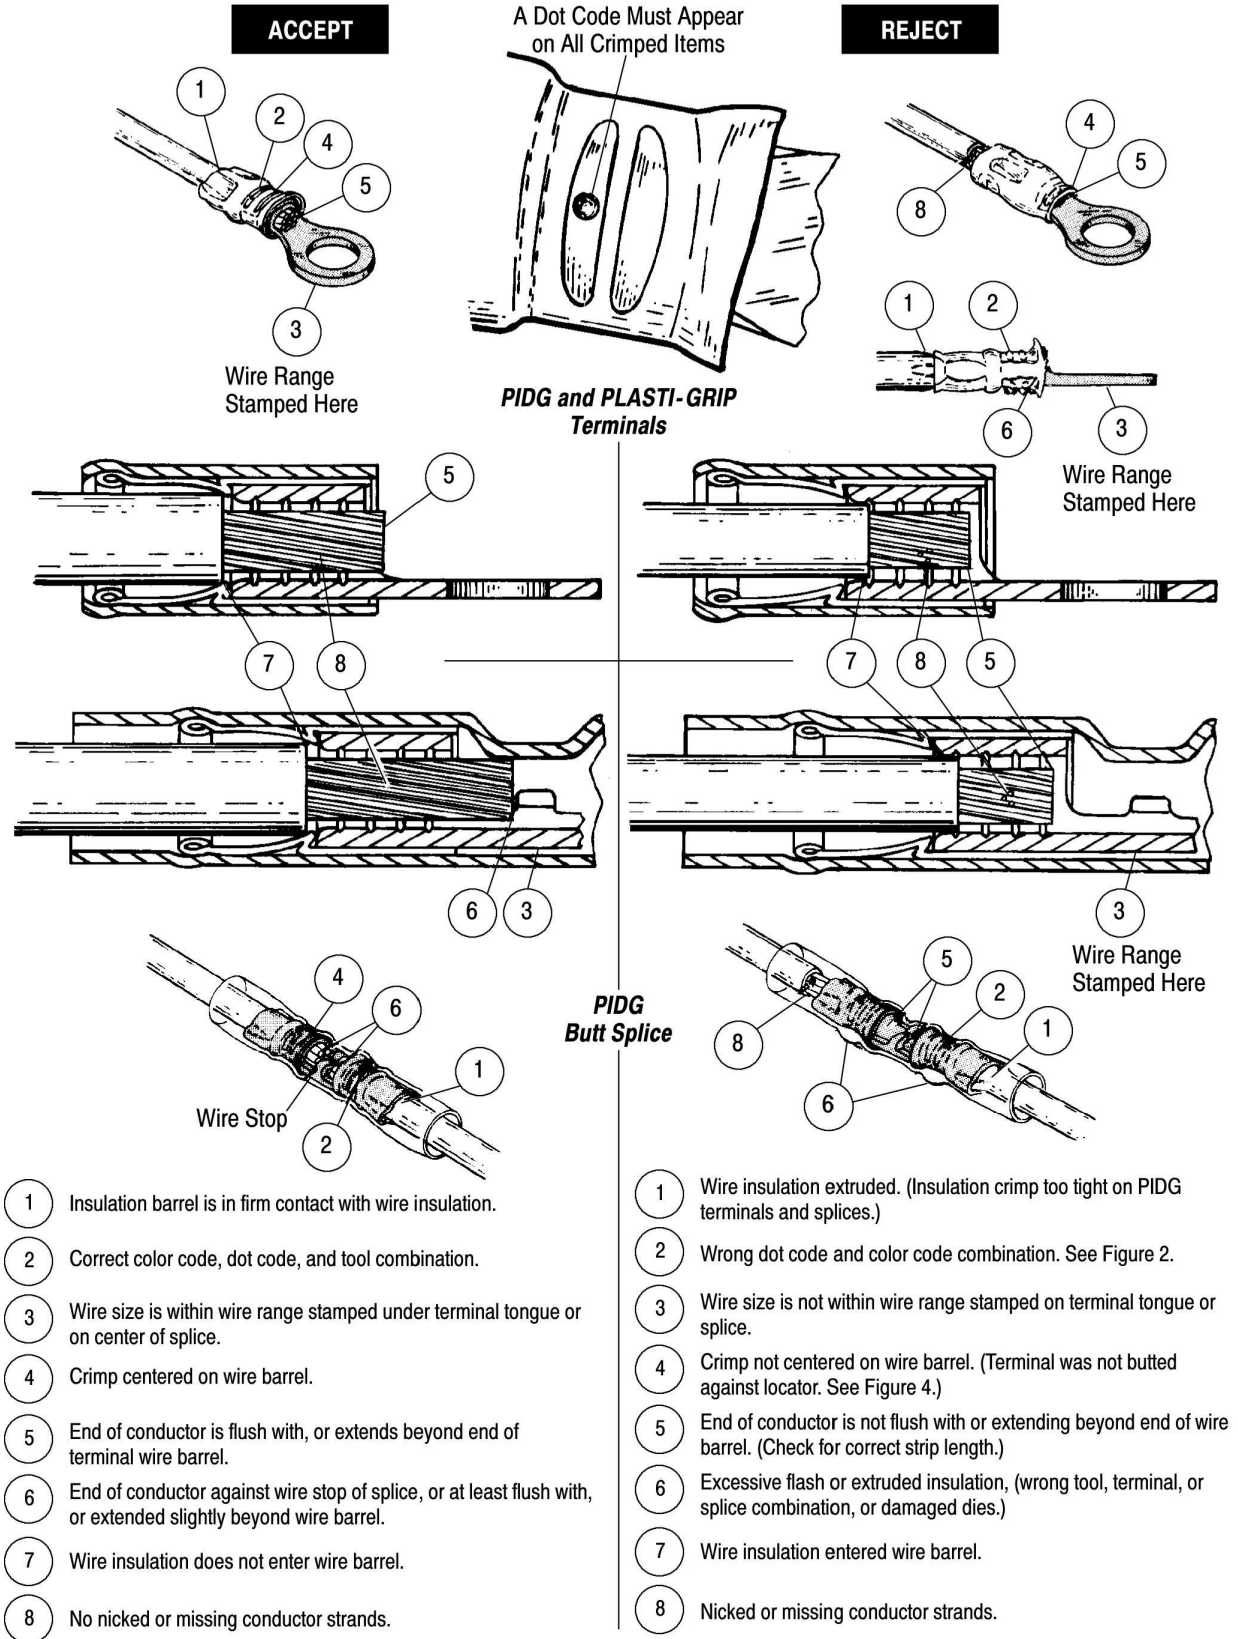
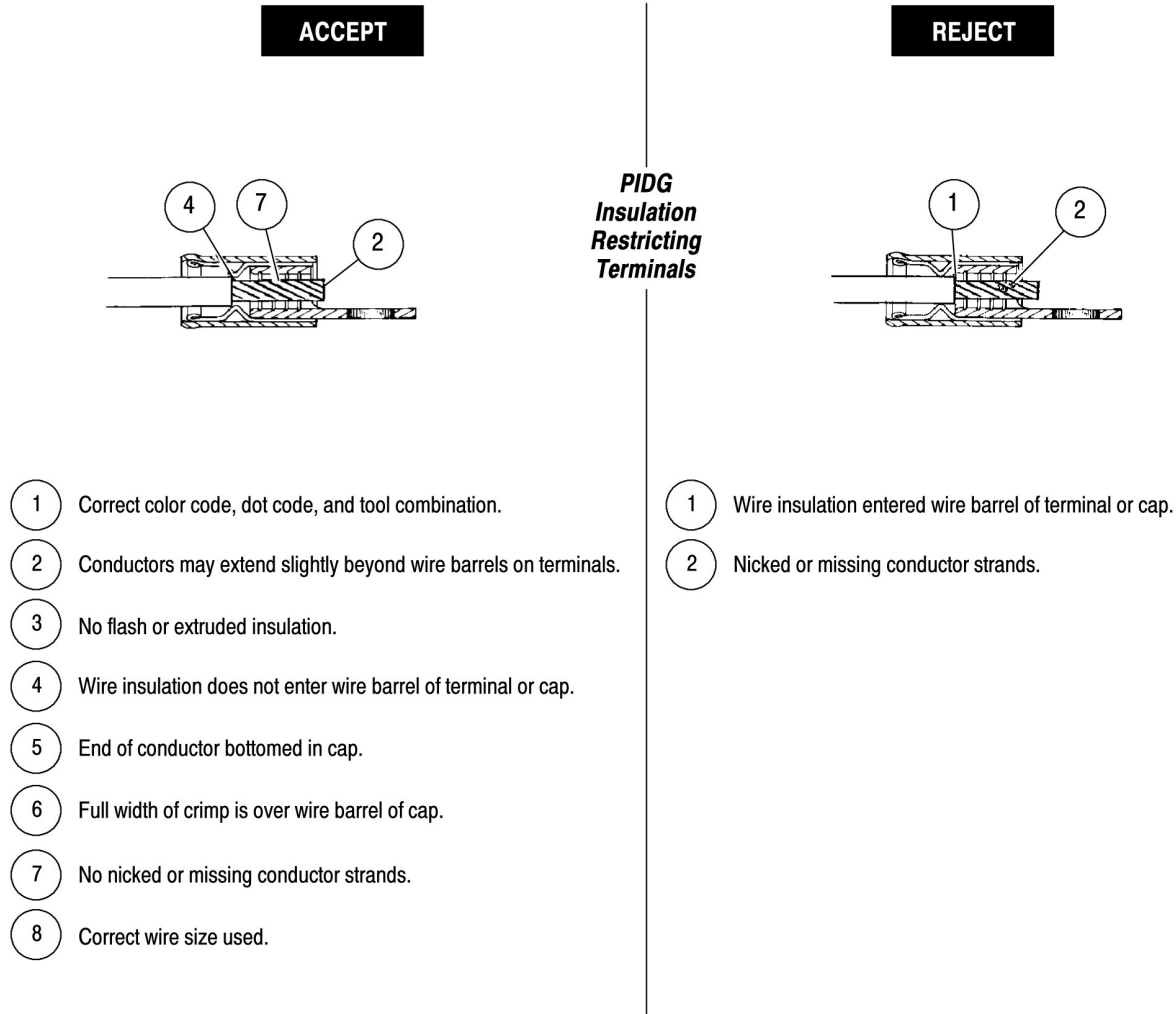

Figure 5
Figure 6
6. Cycle the SDE 1600 Power Unit and hold momentarily to complete the crimp. The terminal or splice should be as shown in Figure 5 or Figure 6.